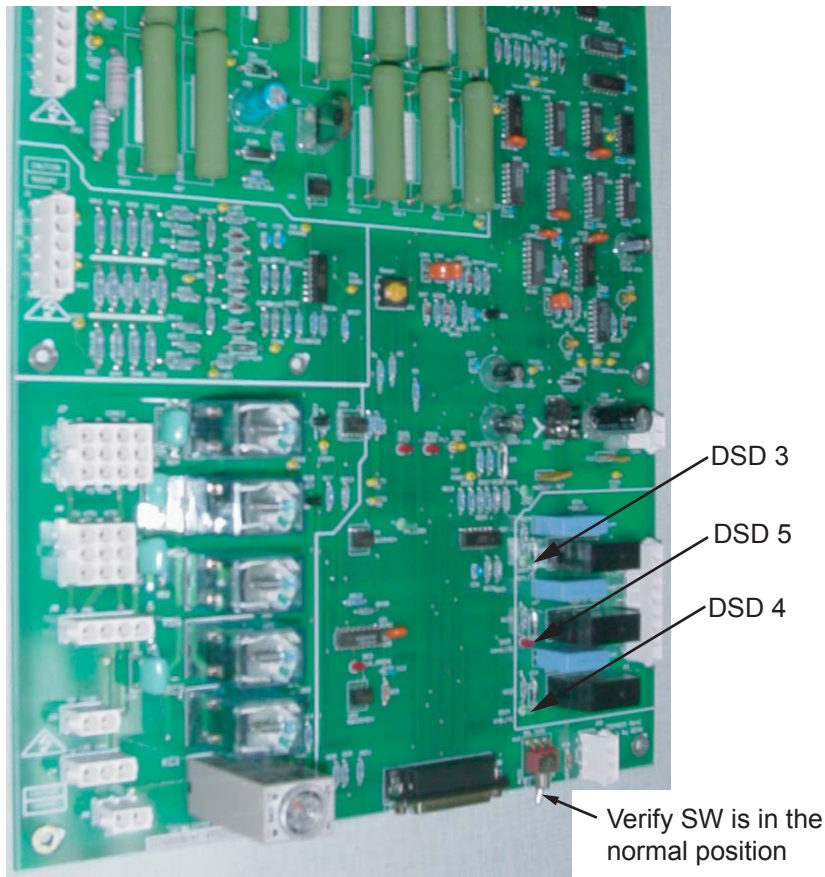

Figure 4-17 NGPDU Control Board
- 2.) When the system is powered, three lamps should be "ON". (Refer to Figure 4-17.)